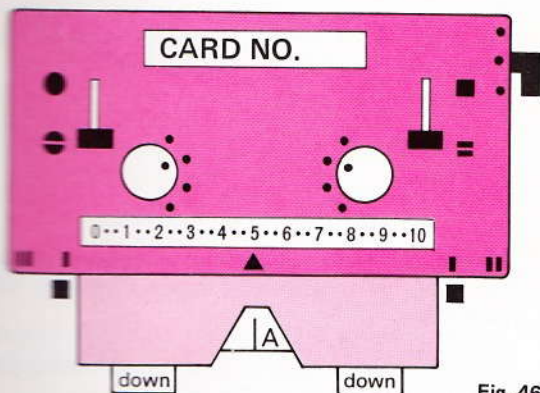

Fig. 46
- Adjust the carriage as follows : (fig. 46)
- **The carriage is on the right** – identical adjustment as for closed edge casting on (fig. 46, page 19).